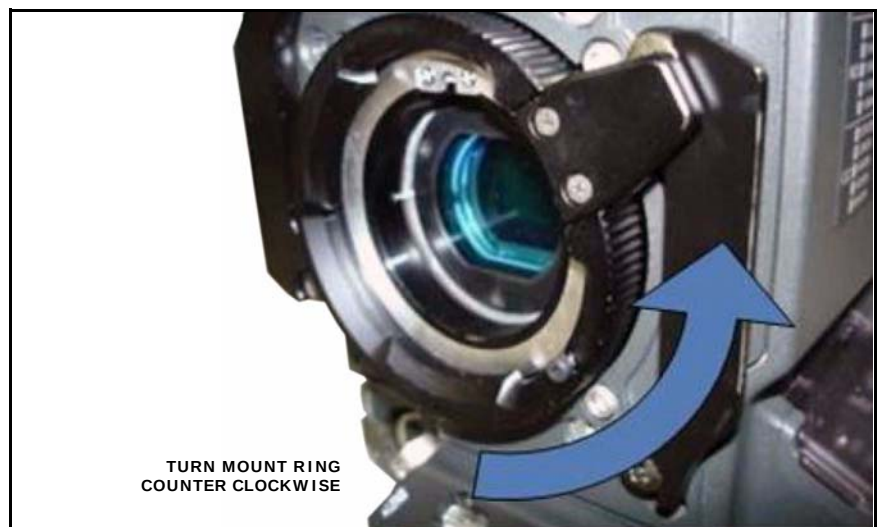

Figure 9
9. Turn the mount ring counterclockwise as far as it will go. (See Figure 9.)